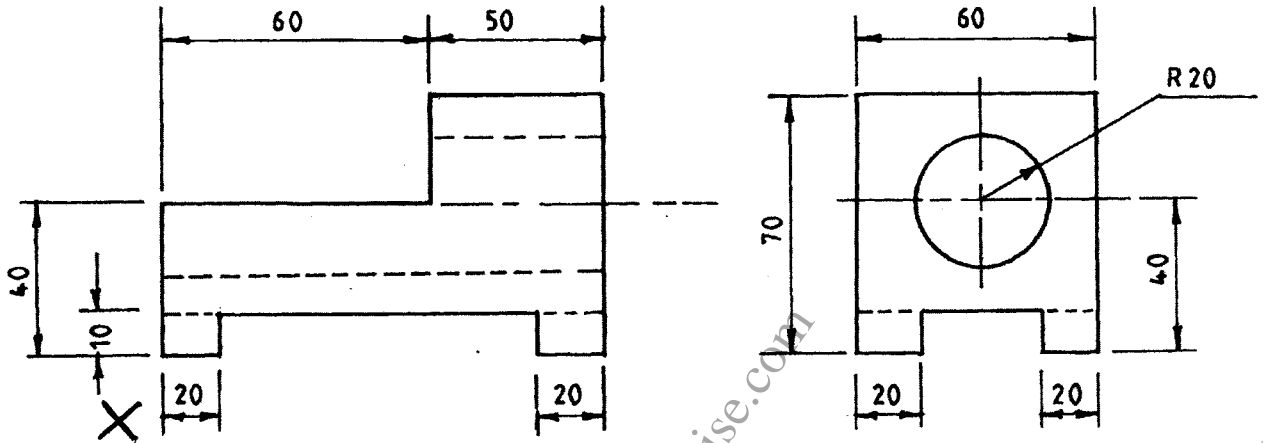

Fig. 4
5. Figure 4 shows two views of a machine block. Draw the block in isometric projection with corner X as the lowest. (15 marks)